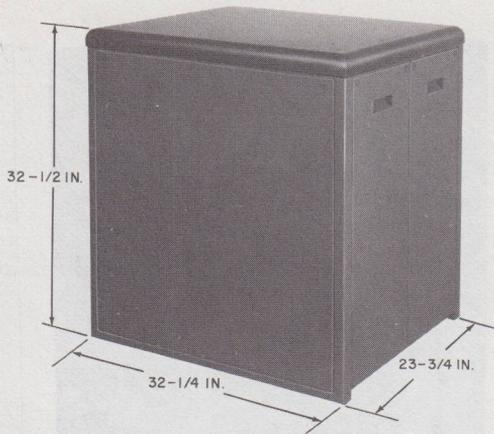

Fig. 14—Floor-Supported Cabinet Per ED-69366-50 Group 1
2.15 The floor-supported cabinet per ED-69366-50, Group 1 (Fig. 14) is a steel cabinet with light olive gray sides and top. Two front doors are hinged at the bottom so that, when lowered, they provide tracks upon which 26A apparatus mountings roll. The top, side, and rear panels are